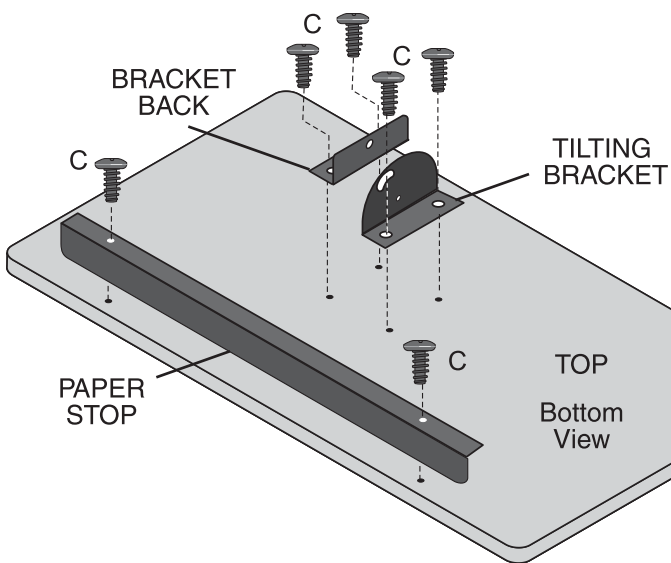

FIG. 2
Attach TILTING BRACKET, BRACKET BACK and PAPER STOP to TOP with 1/2" SCREWS (C) as shown. FIG. 2